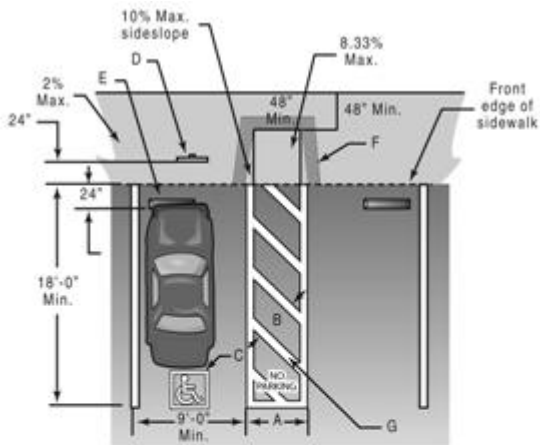

Fig. 6
- B: Stripes 3'-0" on center, Fig. 6